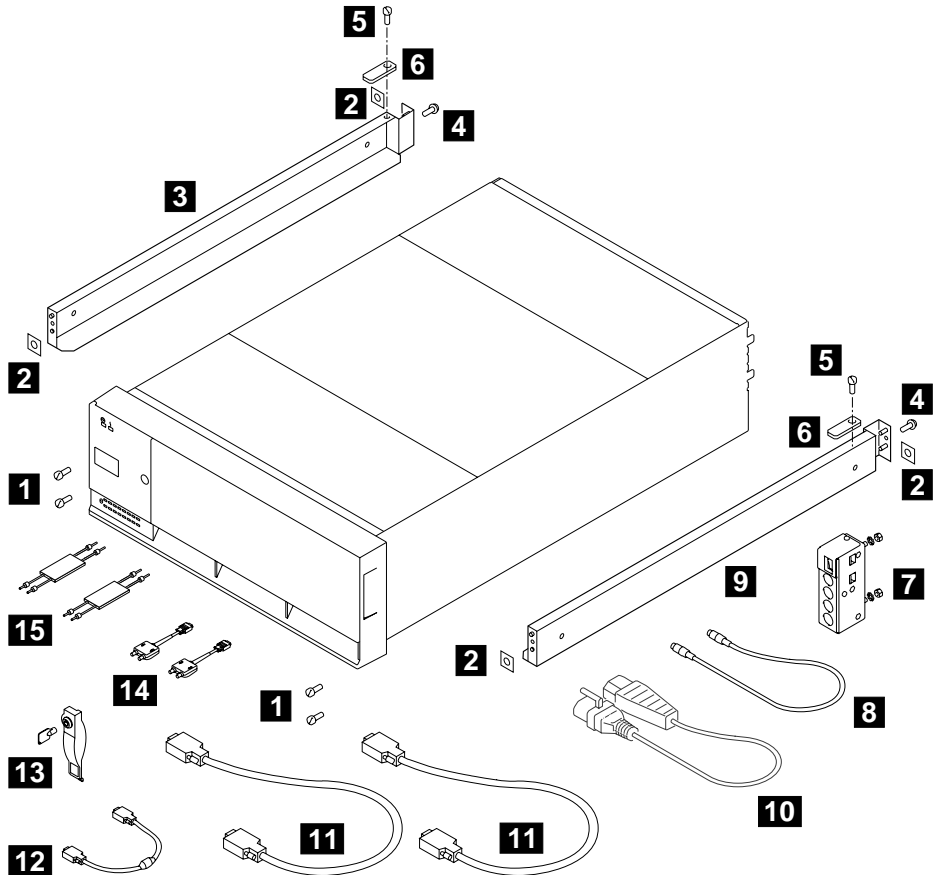

Figure 1. Items for the 7133 Model D40 in an RS/6000 Rack
1. Refer to Figure 1.
Note: Figure 1 on page 4 shows support rails, screws, and nut clips for RS/6000 racks. If you are installing the 7133 into a Netfinity rack, refer to “Checking Items that Are Specific to a Netfinity Rack” on page 6 for the equivalent items.